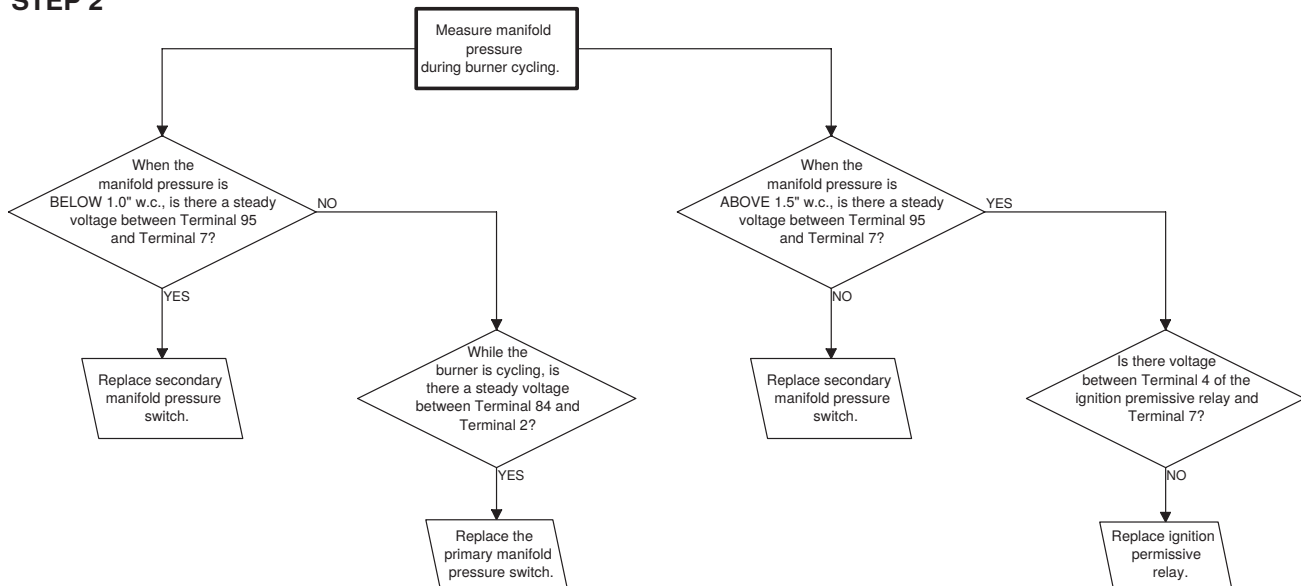

Figure 39. Troubleshooting Guide for Checking Bypass Combustion Air Damper Safety Circuit on Units with Option AG39 or AG40
1. Main burners are inoperative—24V is available between terminals 2 and 7 (see step 1, Figure 39).
2. Steady call for heat (burner cycles)—24V is available between terminals 11 and 7 and terminals 2 and 7 (see step 1, Figure 39).